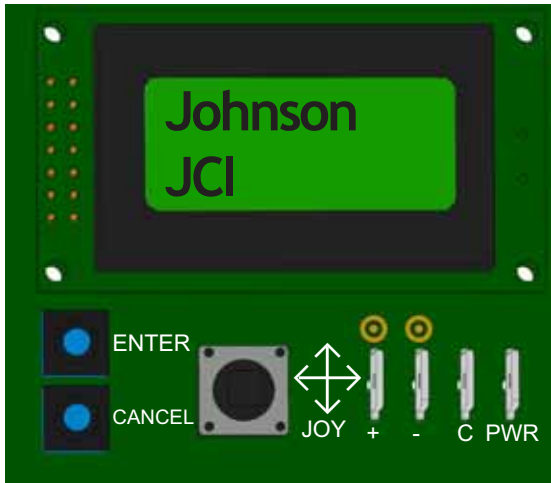

Figure 3 - Start-up display
1. The LCD scrolls the text Johnson Controls on the top line and JCI on the bottom line (Figure 3).